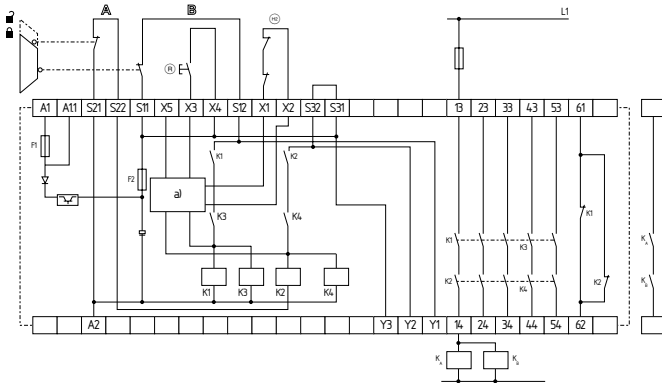

Fig. 5
Dual-channel control, shown for a guard door monitor; with two contacts A and B, where at least one is a positive break contact; with external reset button (R) (see Fig. 5)